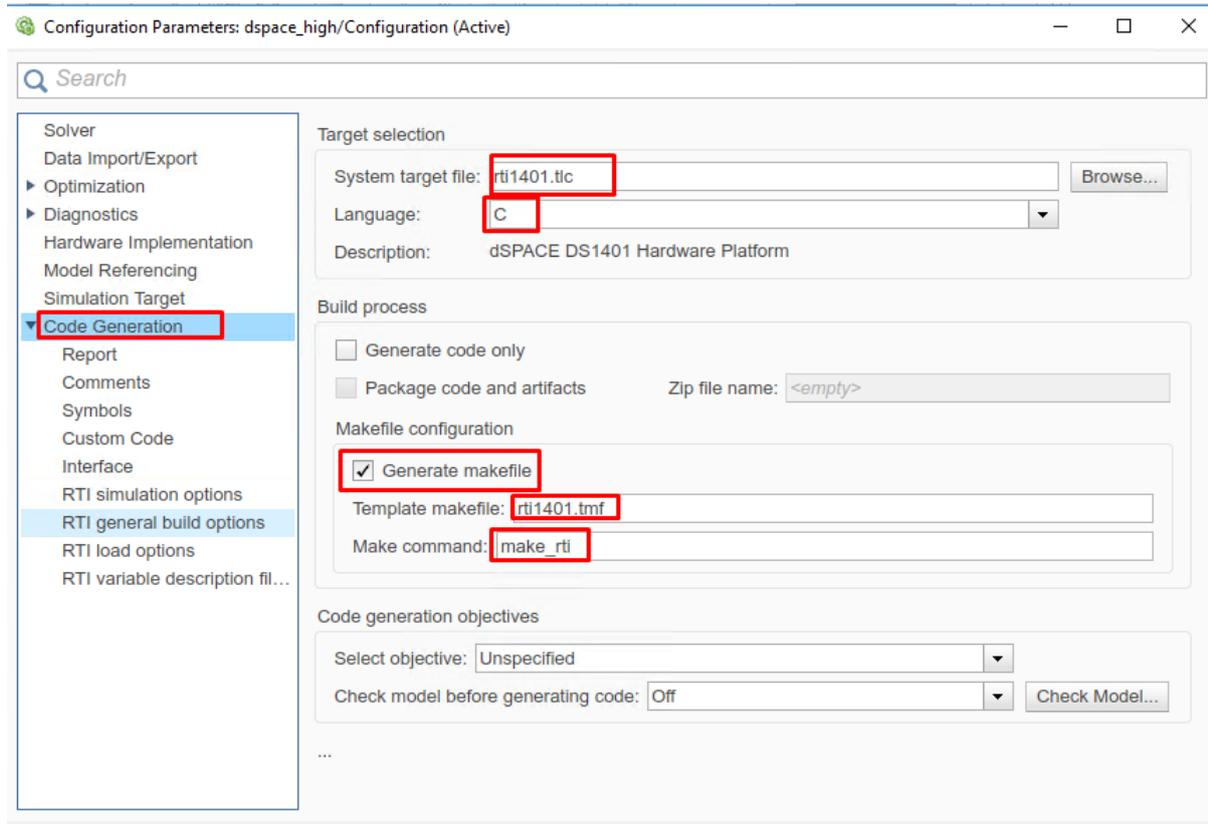

Figure 6.6: Configure Code Generation for dSPACE MicroAutoBox II
- When creating the Simulink Model, in the Configurations, in the “Code Generation” tab, set the options (see Figure 6.6 below):